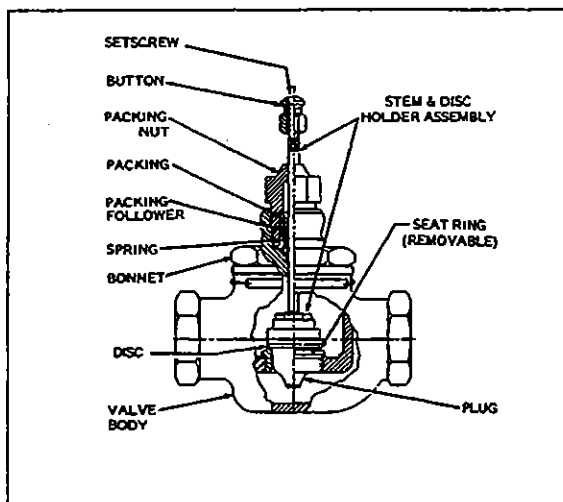

Figure 36: Valve Body Assembly
4. Remove stem and plug. Direct acting threaded body valves (Fig. 36). Unscrew the bonnet. Lift out the stem and disc holder assembly and the plug.
5. Disassemble stem and plug. Threaded body valves. Unscrew plug (Fig. 36) from stem to remove disc and spring. The disc may have to be pried from the disc holder with a screwdriver. The valves have a staked stem and disc holder assembly (Fig. 36). The stem and plug cannot be disassembled on some valves with metal-to-metal seats.